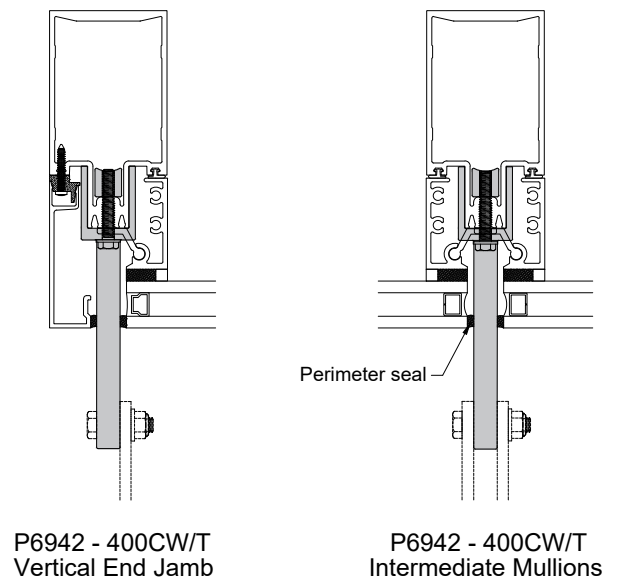

FIG. 13.2
- 5) Once perimeter closure E004CA has been installed, install perimeter glass seals as instructed, sealing around sun shade bracket penetrations. Fig. 13.2.